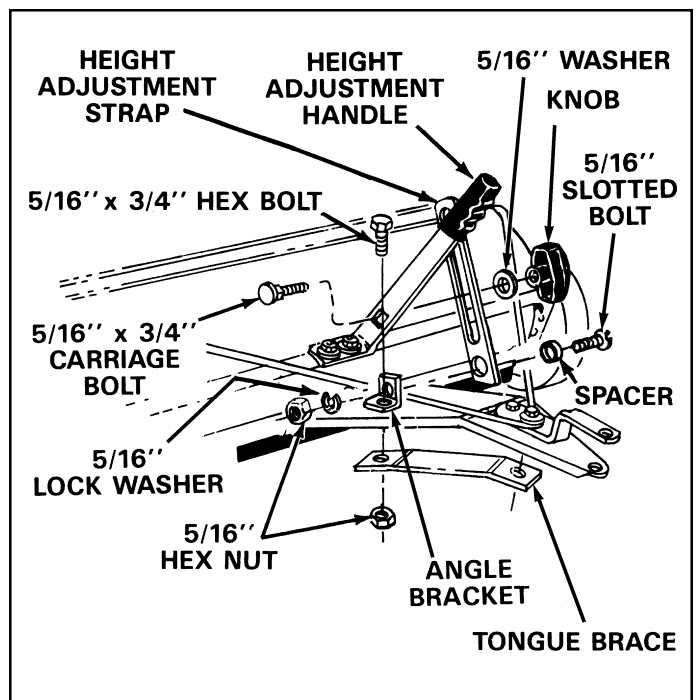

FIGURE 5
8. Place the short end of the angle bracket over the rear hole in the hitch tongue. Insert a 5/16" x 3/4" hex bolt down through the angle bracket, hitch tongue and the rear hole in the tongue brace. Secure with a 5/16" hex lock nut. See figure 5.
9. Place the pivot spacer into the hole in the height adjustment strap. Attach the strap and spacer to the angle bracket using the 5/16" x 3/4" truss head bolt, a 5/16" lock washer and a 5/16" hex nut. See figure 5.
10. Attach the slotted end of the height adjustment strap to the height adjustment handle by inserting a 5/16" x 3/4" carriage bolt first through the handle and then through the strap. Assemble a 5/16" washer and the plastic hand knob onto the bolt. See figure 5.